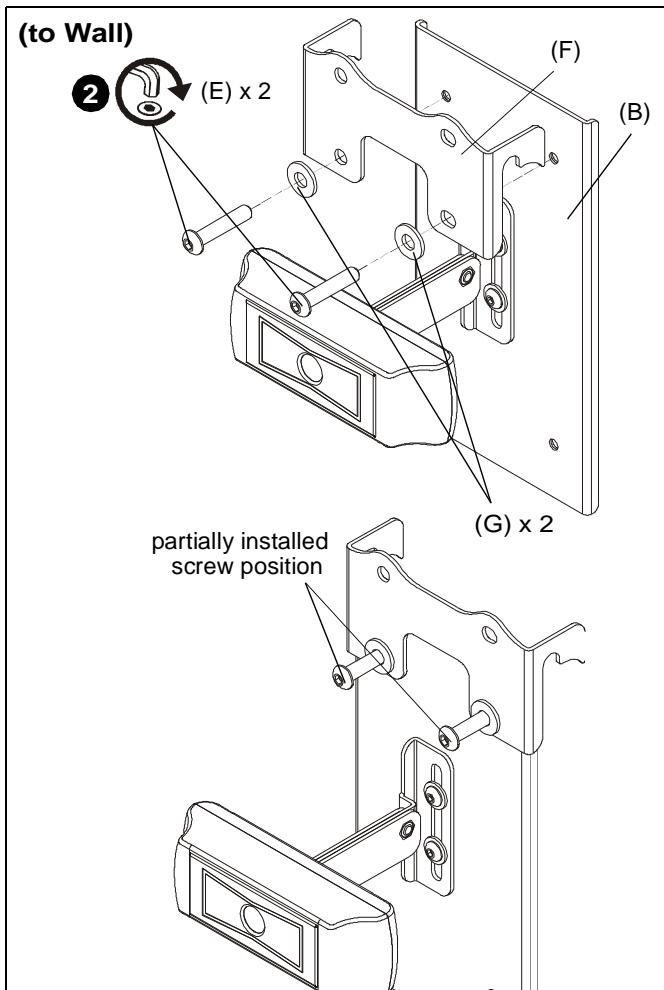

Figure 6
2. Use two 1/4-20 x 1 1/4" button head cap screws (E) and two 1/4" washers (G) to partially attach one center holder (F) to center plate (B). Do NOT install screws too far or installation to wall mount will not be possible. (See Figure 6)